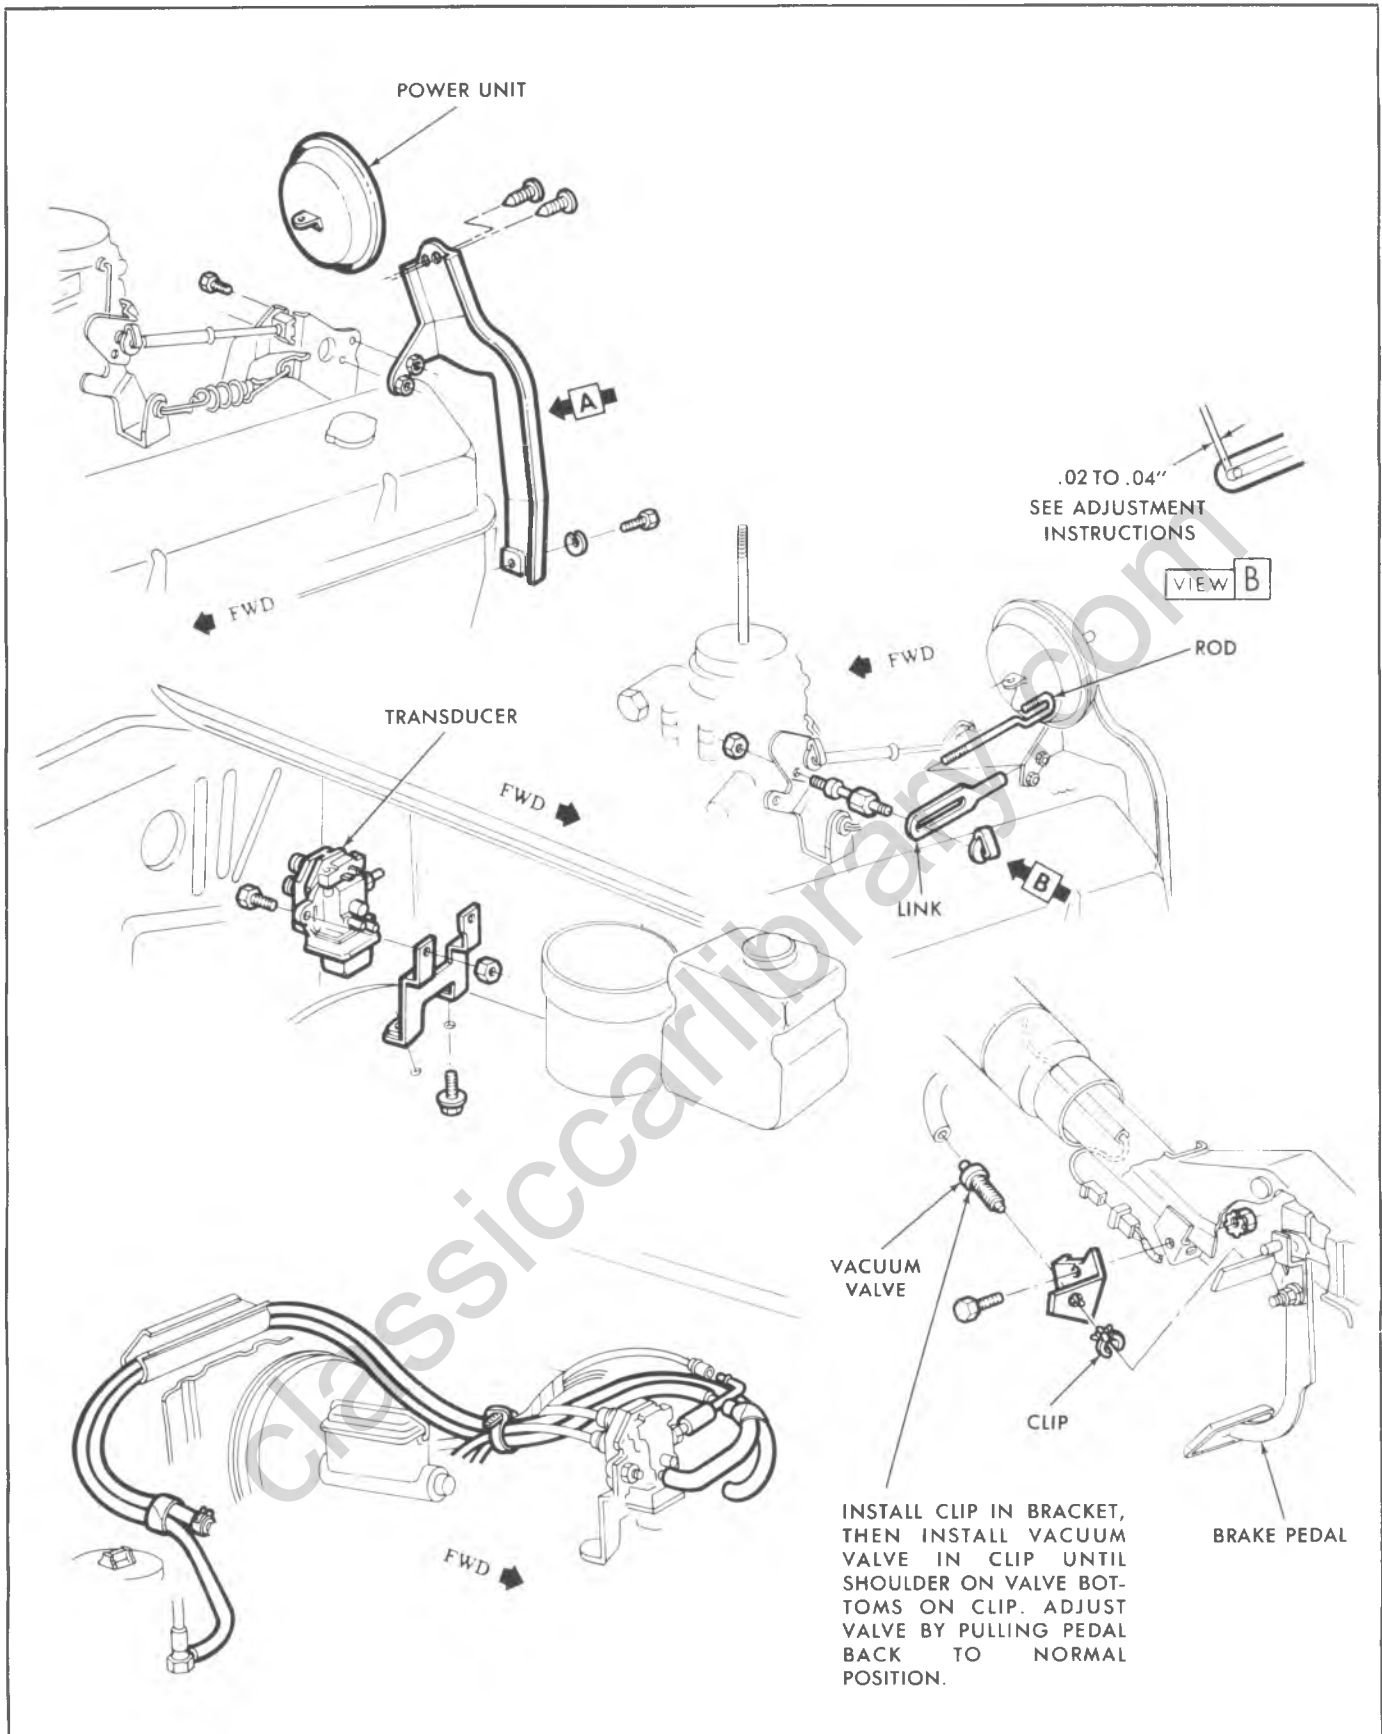

Fig. 9-6C--Cruise Master Installation--C-K Models
TRANSDUCER (Figs. 9-6C and 9-7C)
Adjustment (Fig. 9-6C and 9-7C)
2. With rod hooked through tab on power unit, adjust length by turning link onto rod until dimension shown in Figures 9-6C and 9-7C is obtained.
BRAKE RELEASE SWITCHES (Figs. 9-6C and 9-7C)